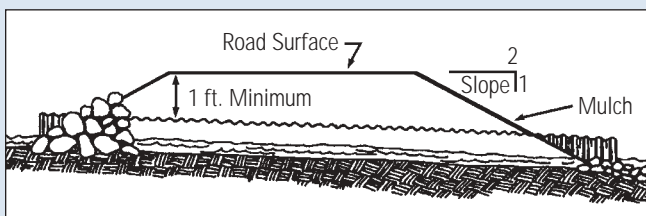

Figure 11-8: Install culverts so there is no change in the stream bottom elevation.
- ✓ Install culverts so there is no change in the stream bottom elevation. Culverts should not cause damming or pooling (see Figure 11-8).